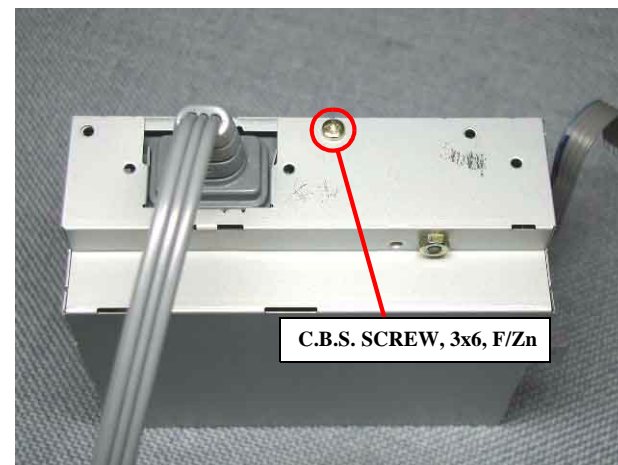

Figure 4-25. Upper power supply board shield plate removal
- Fasten one screw (C.B.S. SCREW 3x6 F/Zn) for securing the Upper power supply shield plate to the Lower power supply shield plate. (Refer to Figure 4-25)